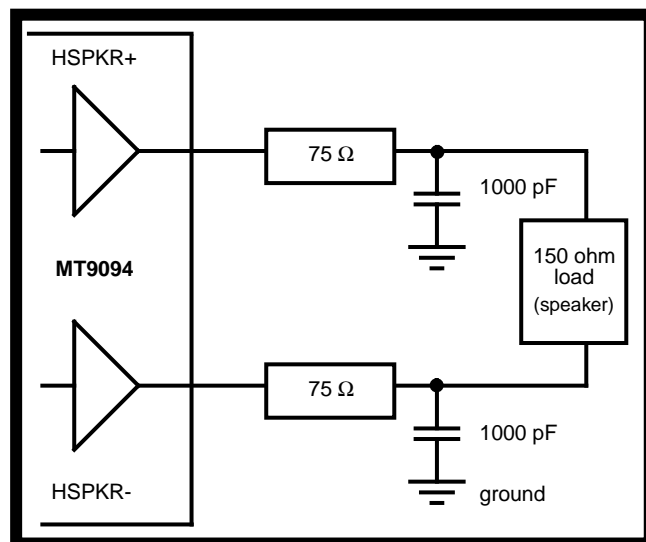

Figure 4 - Handset Speaker Driver
- ◆ The handset speaker outputs (receiver), pins HSPKR+/HSPKR-. This internally compensated, fully differential output driver is capable of driving the load shown in Figure 4. This output is enabled/disabled by the HSSPKR EN bit residing in the Transducer Control Register (address 0Eh). The nominal handset receive path gain may be adjusted to either -12.3dB (suggested for μ -Law) or - 9.7dB (suggested for A-Law). Control of this gain is provided by the RxA/ \bar{u} control bit (General Control Register, address 0Fh). This gain adjustment is in addition to the programmable gain provided by the receive filter and DSP.